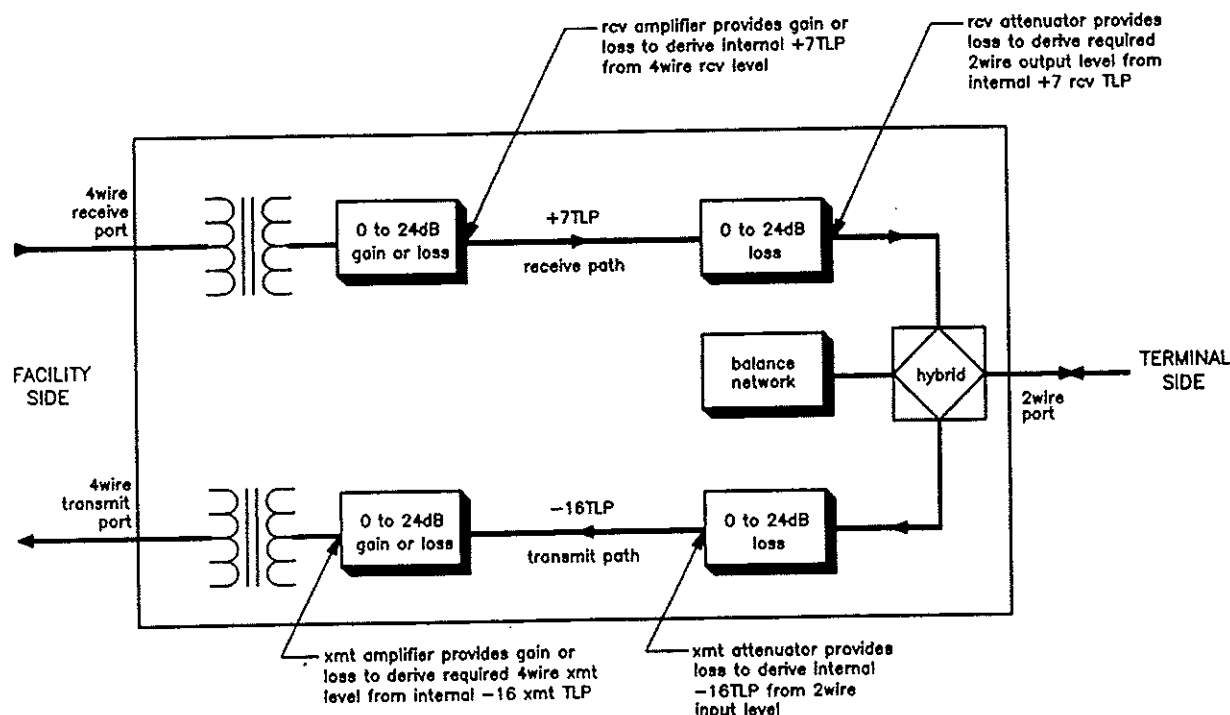

figure 4. Level coordination in 6123/A
2.07 Prescription-set transmit and receive amplifiers on the facility side of the 6123/A allow the module to interface the 4wire SF signaling facility directly, i.e., without a separate facility-side line amplifier. The module's amplifiers, in conjunction with the prescription-set transmit and receive attenuators on the module's terminal side, provide for full coordination between facility-side (4wire) and terminal-side (2wire) levels (see figure 4). In the receive channel, the facility-side amplifier is set to provide the gain or loss necessary to derive a +7 transmission level point (TLP) within the module. This internal TLP is then used as a reference as the module's terminal-side receive attenuator is set to provide the loss necessary to derive the required 2wire output level. In the transmit channel, the terminal-side attenuator is set to provide the loss necessary to derive a -16TLP within the module. This internal TLP is then used as a reference as the module's facility-side transmit amplifier is set to provide the gain or loss necessary to derive the required facility-side 4wire transmit output level. Both facility-side amplifiers in the 6123/A provide from 0 to 24dB of gain or from 0 to 24dB of loss in switch-selectable 0.1dB increments. Both terminal-side attenuators provide from 0 to 24dB of loss in switch-selectable 0.1dB increments. Thus, 4wire receive TLP's from -17 to +7 can be accommodated and 2wire output TLP's from +7 to -17 can be derived. In a similar manner, 2wire input TLP's from -16 to +8 can be accommodated and 4wire transmit TLP's from +8 to -16 can be derived. Total facility-side gain and total terminal-